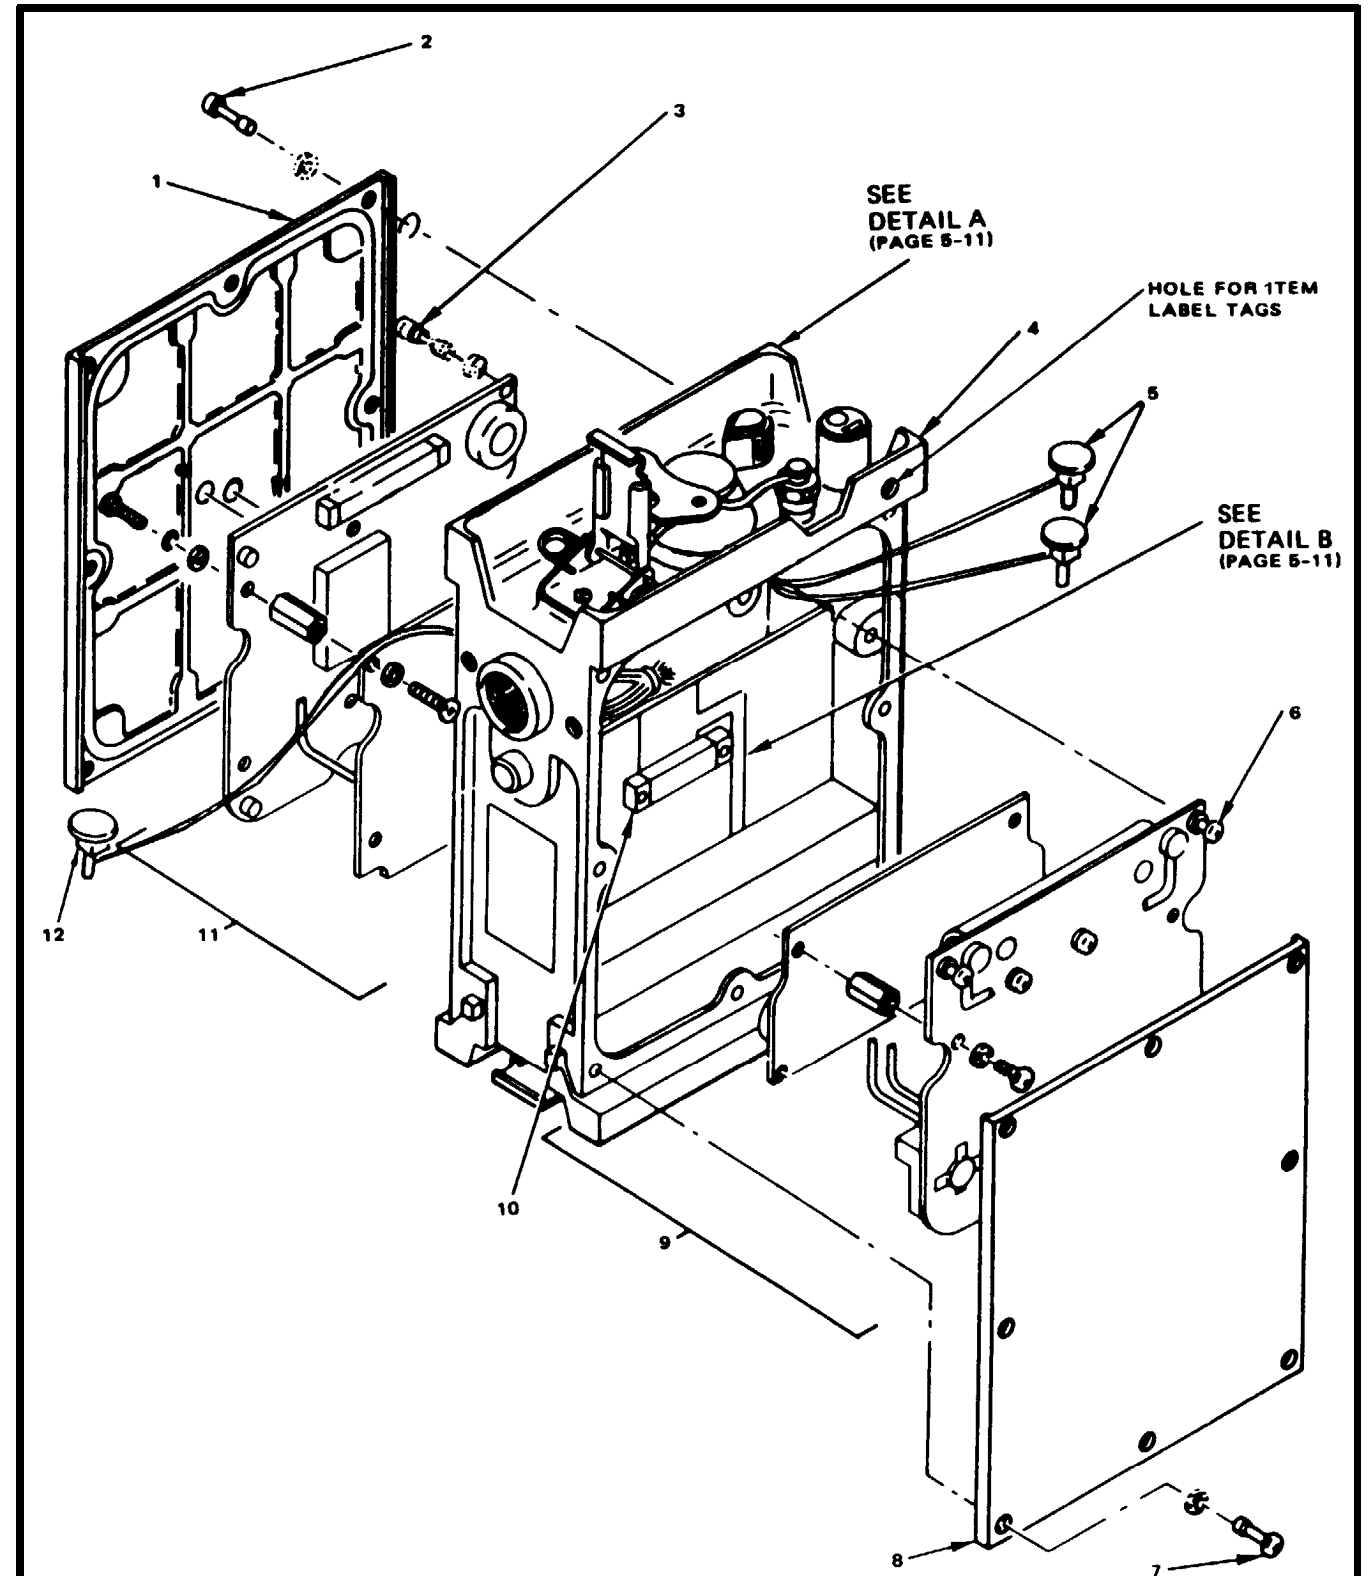

Figure 5-4. Power Amplifier A2A1 Removal and Replacement
**POWER AMPLIFIER A2A1 REMOVAL AND REPLACEMENT, fig 5-4**